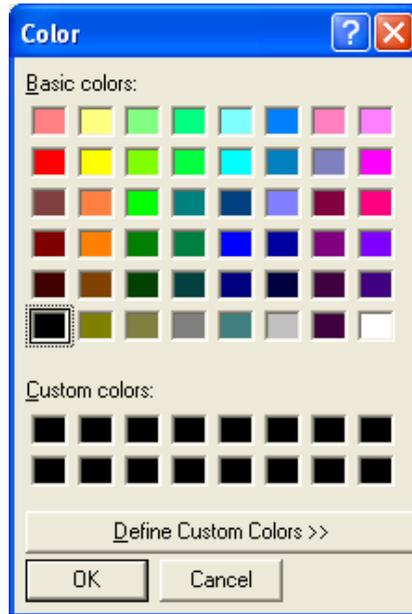

Fig.3-11 Choose color
- ⊕ Color  : To choose pen’s “color” click on the color button and it will pop up Fig. 3-11 dialog box.
- ⊕ Edit Text Color  : Text color can be changed by clicking “edit text color” button and it will pop up Fig.3-11 dialog box.
- ⊕ Edit Text Background Color  : Text background color can be changed just by clicking “edit background color” and it will pop up Fig.3-11 dialog box.